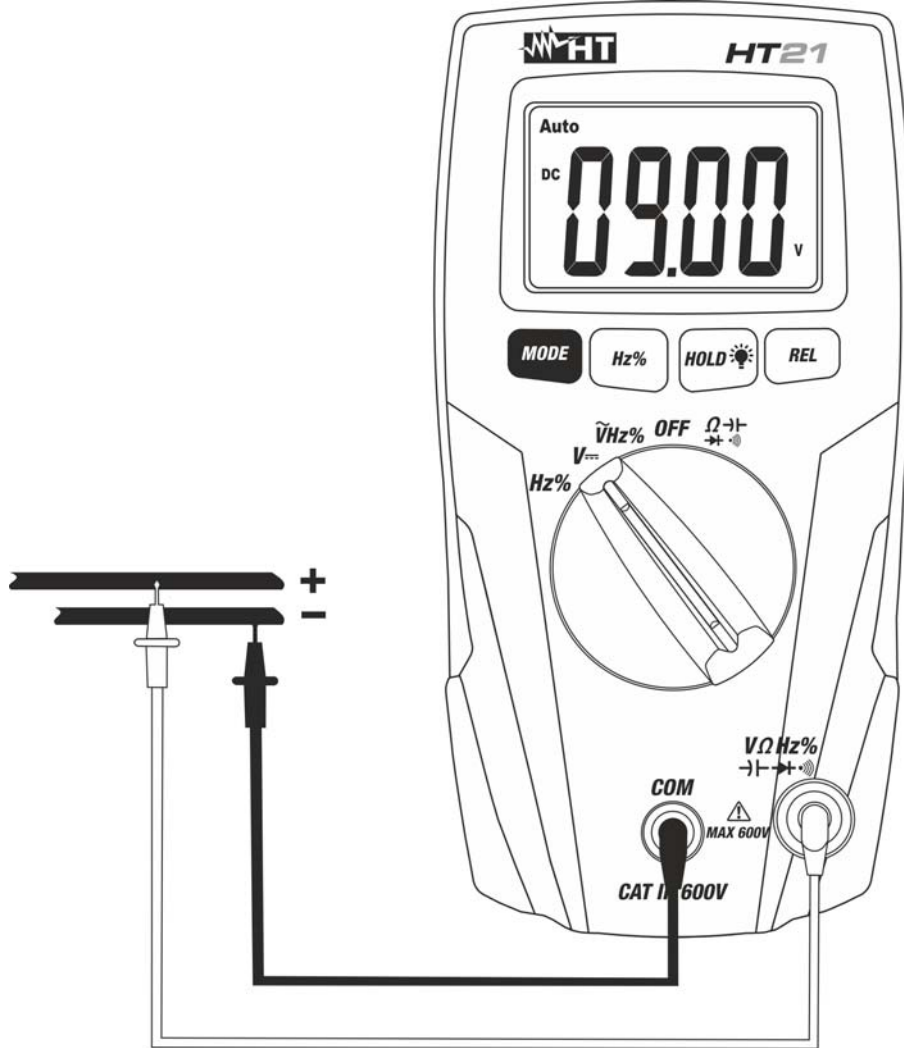

Fig. 2: Using the meter for DC Voltage measurement
3. Connect the red and black test leads to the positive and negative poles of the circuit under test respectively (see Fig. 2). The voltage value is displayed
5. The symbol "-" on the instrument display indicates that voltage has opposite direction with regard to the connection of Fig. 2